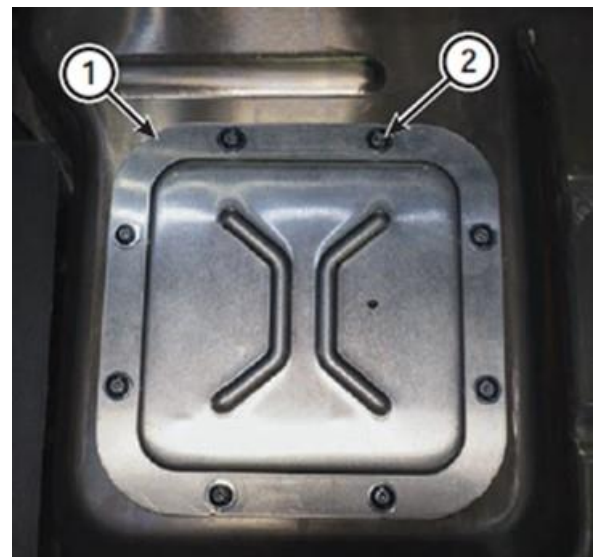

Figure 13 – Test Point Access Cover
- Install the test points access cover (1) to the battery pack and tighten the eight M6 Torx screws (2) to 8.8 N·m (78 in. lbs.) (Figure 13).